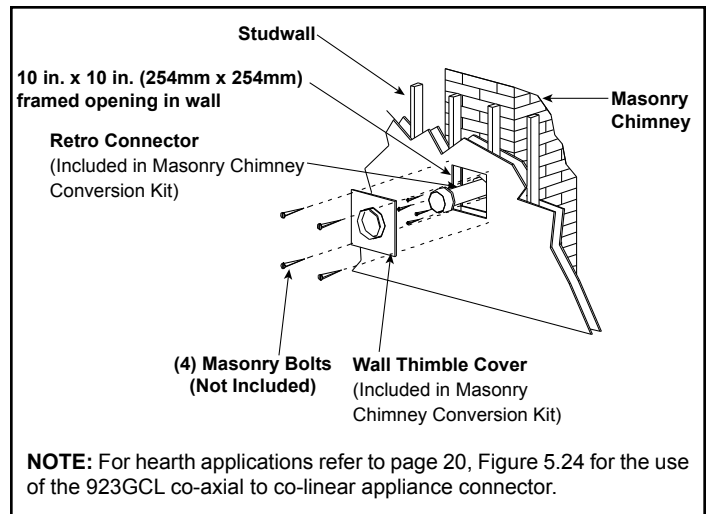
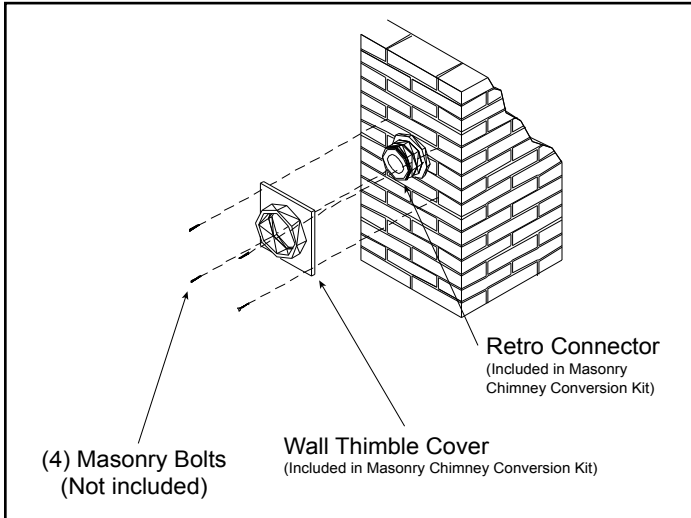

Figure 5.28
Figure 5.33
2. Once the center point of the penetration has been determined, cut a 6 in. (152 mm) diameter hole in the masonry. If the hole is too large, the retro connector might not mount properly; if the hole is too small, the appliance might starve for intake air. If there is a frame wall in front of the masonry wall, cut and frame a 10 in. (254 mm) square opening in the wall (centered around the 6 in. (152 mm) masonry opening). If there is sheet rock only (no studs) in front of the masonry the 10 in. (254 mm) square opening is still needed, but does not need to be framed. If the hole is framed a round support box/wall thimble is required. This allows the retro connector to mount directly on the masonry and provide the correct clearances to combustibles (Figure 5.28).
8. Secure the top adaptor to the flashing. Use three sheet metal screws through the side of the top adaptor into the flange on the flashing (Figure 5.28). Twist lock the high wind termination cap on to the top adaptor.
10. Slide wall thimble cover over retro connector and secure with masonry bolts (Figure 5.33). If you have a framed wall in front of the masonry, use wood screws to mount wall thimble cover to framed wall, over retro connector and 10 in. (254 mm) square framed opening (Figure 5.28). If needed, add a section of direct vent pipe to the retro connector in order to extend through the opening in the wall thimble cover.